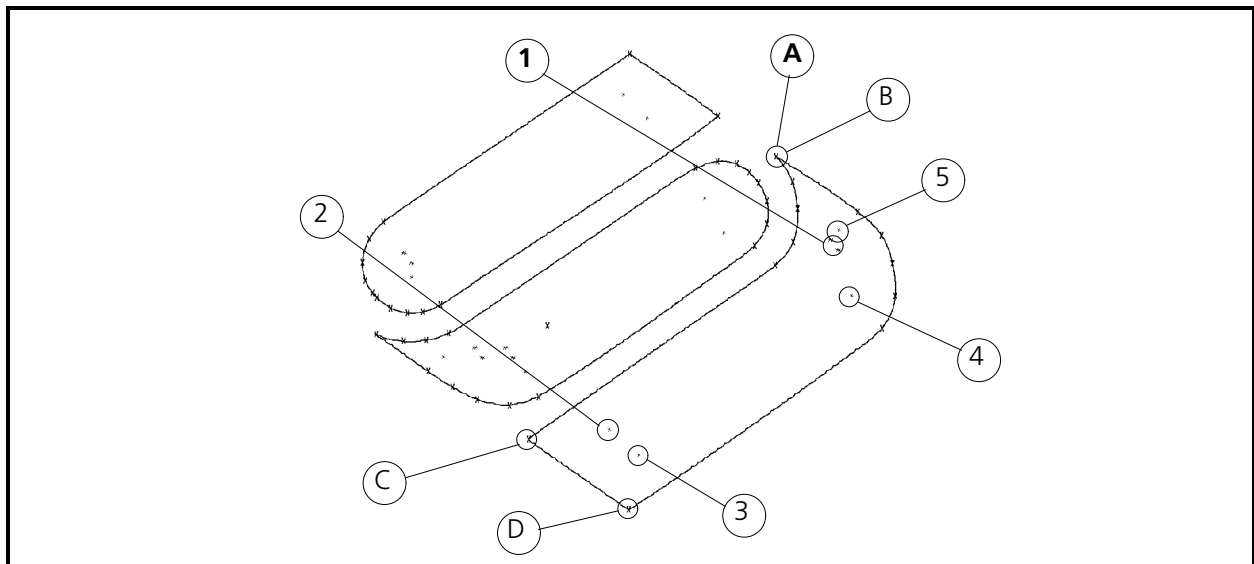

Figure 6-77
13. Generate lock stitches near point D, move to point 1 in Figure 6-77 with the needle up / normal stitch sequence, and generate another set of lock stitches to get ready for the last section of the Saurer logo fill stitching.